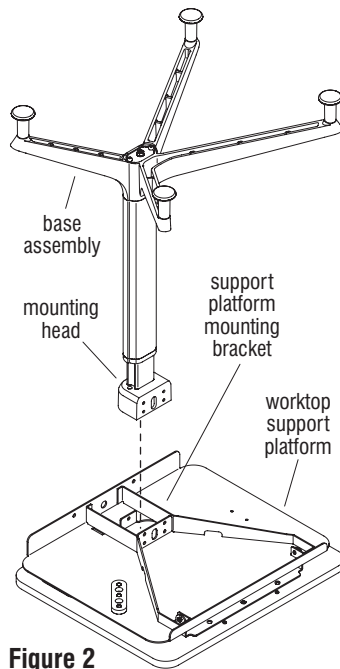

Figure 2
2. Carefully place the worktop support platform upside down on a soft, protective surface (Figure 2).
3. Orient the base assembly upside down and carefully lower the mounting head into the rectangular opening of the support platform mounting bracket (Figure 2).